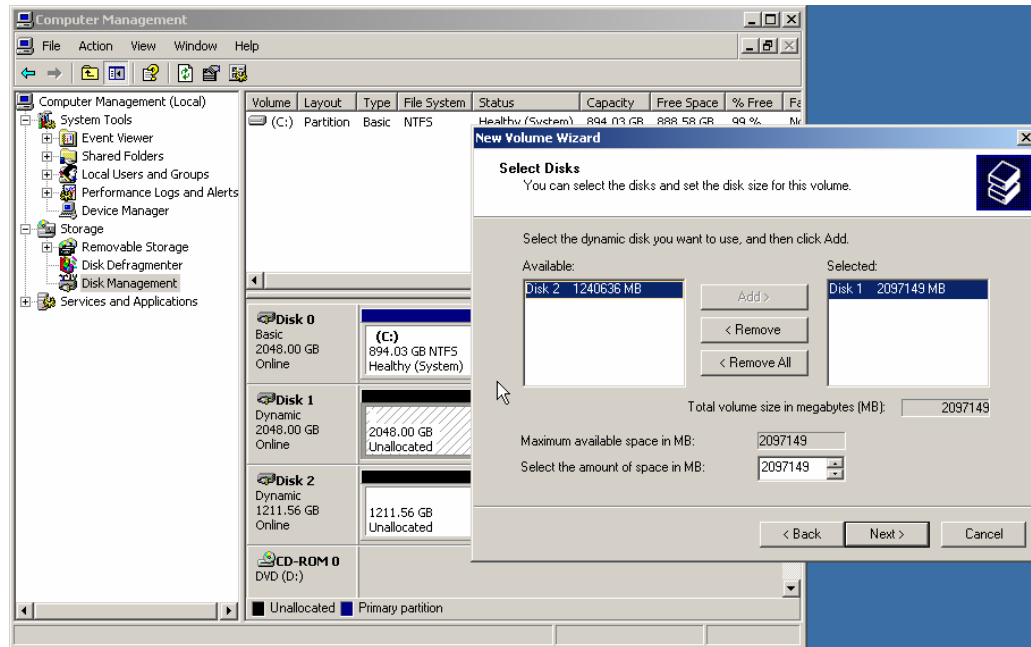

Figure 6-26
- 28) Click the **Next** button to be presented with the **Select Disk** screen. Ensure that the **Disk 1** item is selected and appears in the **Selected** column on the right-hand side of the dialog as shown in Figure 6-26.